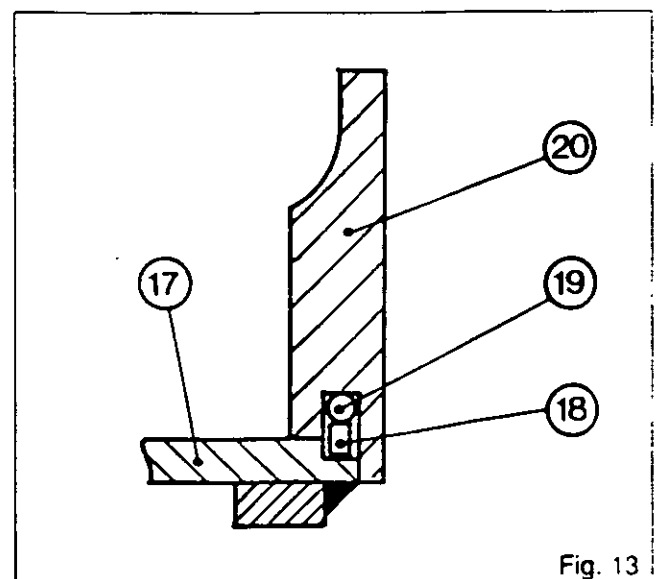
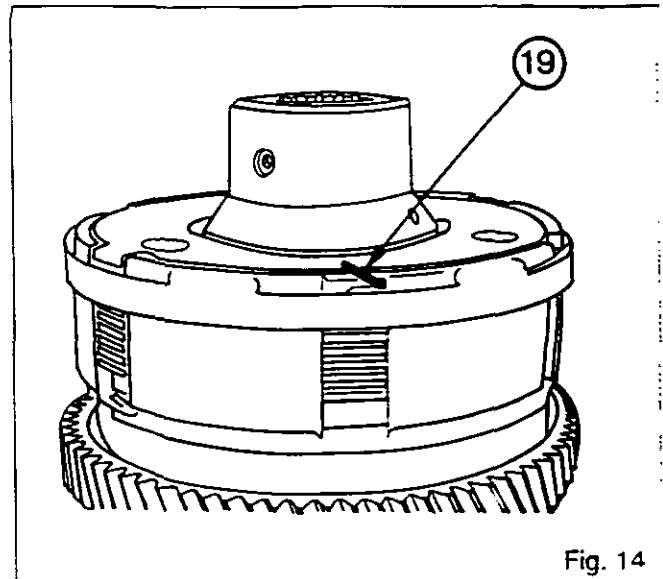

Fig. 13
Fig. 14
48. Fit the retaining ring (19).
**Note :** The retaining ring must be fitted between the cover (20) and the circlip (18) (Fig. 13). After fitting, bend back the end of the retaining ring (19) (Fig. 14).
50. Lubricate and fit the O-rings (3) and (6).